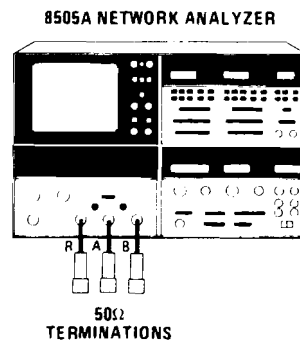

Figure A4-7. Noise Floor Test Setup
In step e, change the reference from "Figure A4-7" to "Figure A4-22".
- a. Connect equipment as shown in Figure A4-7.